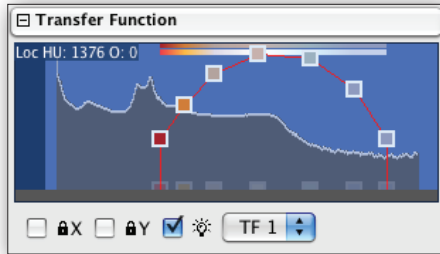

FIGURE 4.49: Evenly spaced Control Points
**BEST PRACTICE TIP 2: Control Point Spacing** (Figure 4.49). For best interactive performance, try to keep the distance between control points along the X-axis as equal as possible.